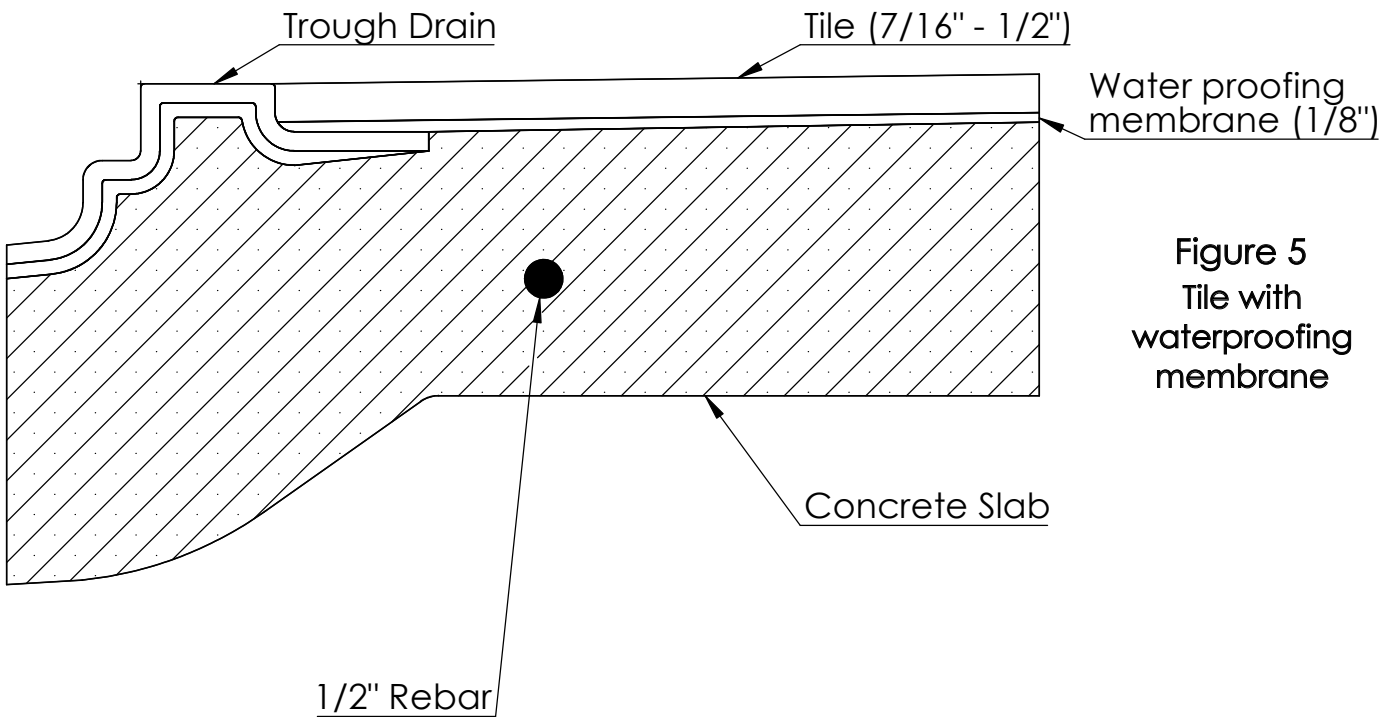

Figure 5
- f. Float concrete to flange for tile applications with waterproofing membrane as shown in figure 5